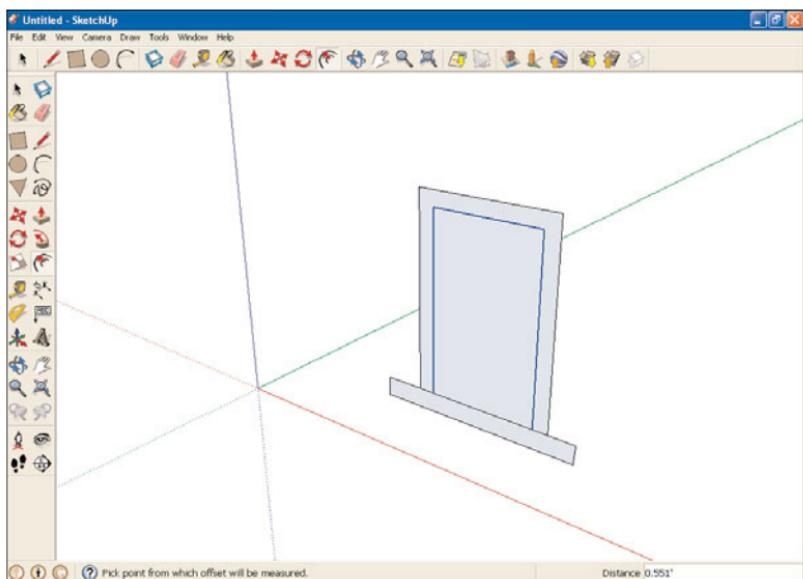

FIGURE 9.9 A new door frame.
10. Release the mouse button. This locks the offset into place, as you can see in Figure 9.9.